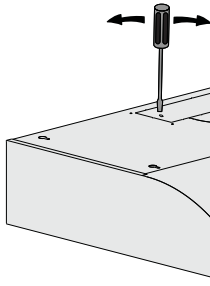

Figure 8
- If you require rectangular top (vertical) venting, simply install the rectangular damper provided (see Figure 8, 9 and 10). Use four screws (ST4 × 8 mm) to connect 10 inch damper.